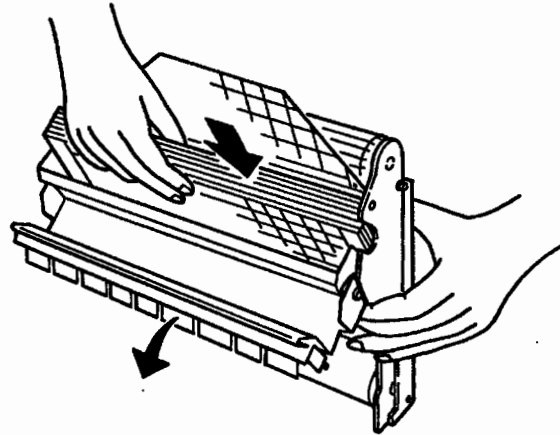

Figure 6.12
- (5) Load the chart into the tray by pulling it to the right side. In this case, set the chart so that the round holes in the chart are positioned at the right. (Figure. 6.12)